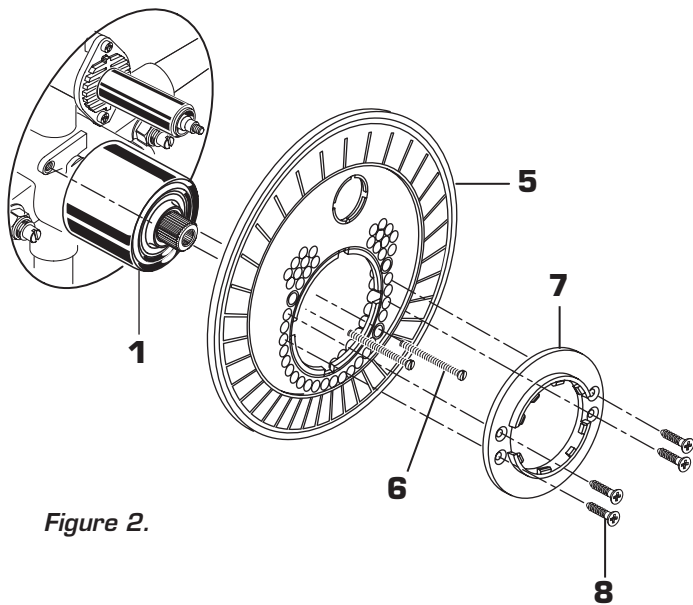

Figure 2.
- **Figure 2.** Push ESCUTCHEON HOLDER (5) onto CAP (1) and attach to valve body with SCREWS (6). Mount ESCUTCHEON SUPPORT (7) to ESCUTCHEON HOLDER (5) with SCREWS (8).